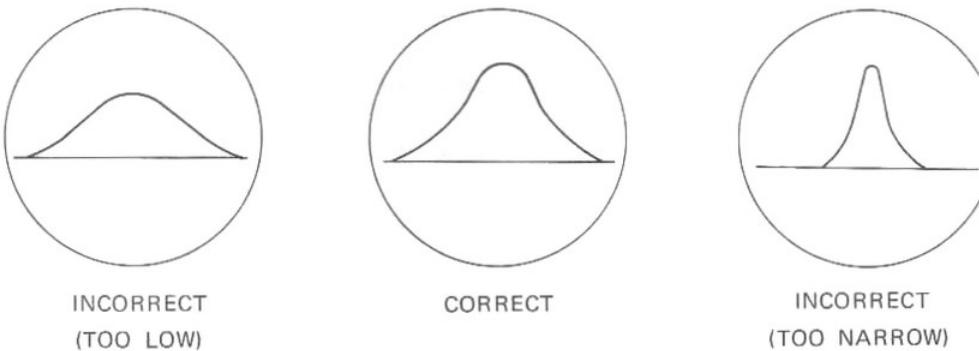

Figure 4.
- 5) Adjust core of T5 for highest, widest and round top display as shown in Figure 4, CORRECT (Since ceramic filters are used in the IF circuits, ignore 10.7 MHz center marker in the alignment).